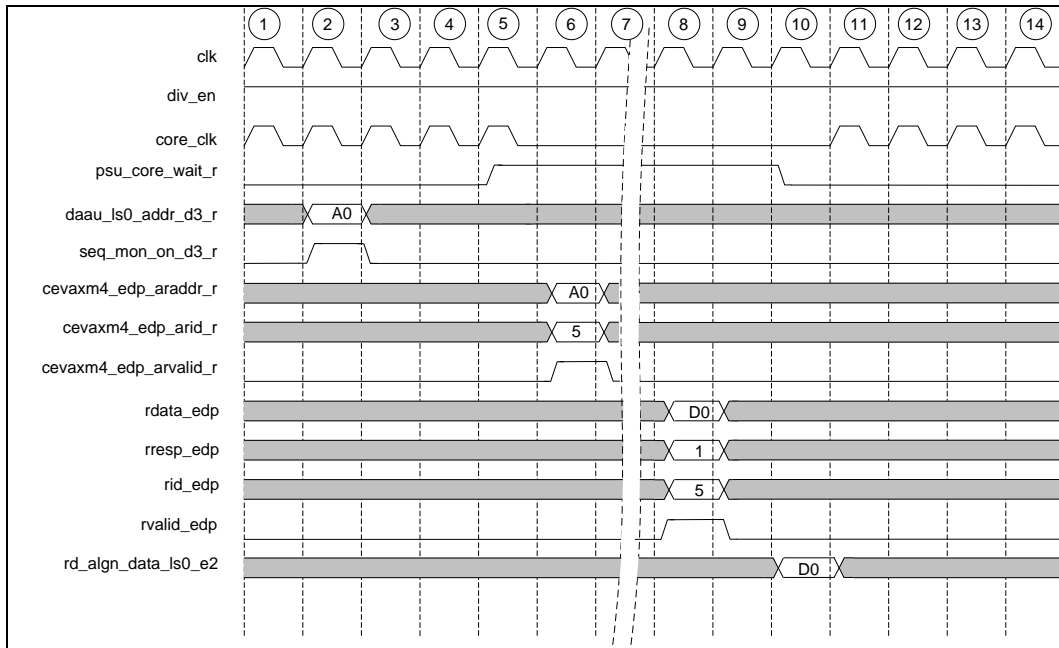

Figure 5-1: Exclusive Read Succeeded (EXOK Response) Timing Diagram
2. If the AXI slave supports exclusive access, then the AXI slave is returned with EXOKAY, as shown in Figure 5-1.